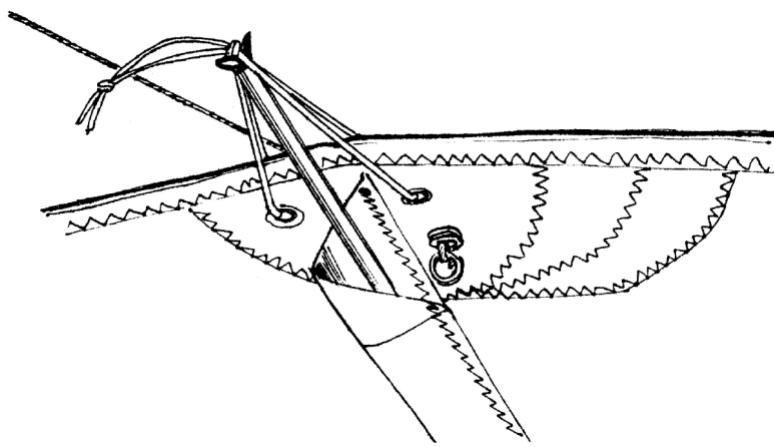

Fig. 36
2.4.6. Check that each of the luff lines is free from the batten tension leech lines and the luff line safety ring is flush with the bottom of the sail (Fig. 36).